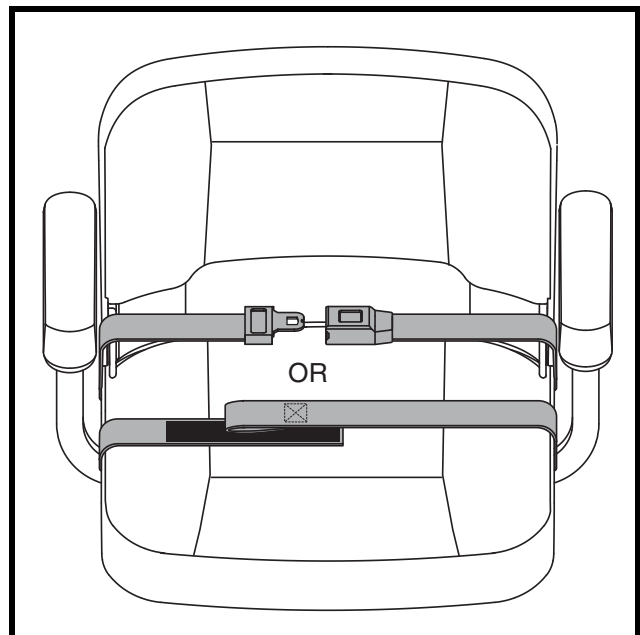

Figure 21. Positioning Belt - Metal Tab Style or Reusable Hook and Loop Fastener Style
1. Insert the metal tab on the right side of the belt into the plastic housing on the opposite strap until you hear a “click.” **See figure 21.**
1. Align the two sides of the belt placing the looped-end side directly above the coarser side (“hook”) of the opposite belt. Press firmly together to fasten. **See figure 21.**